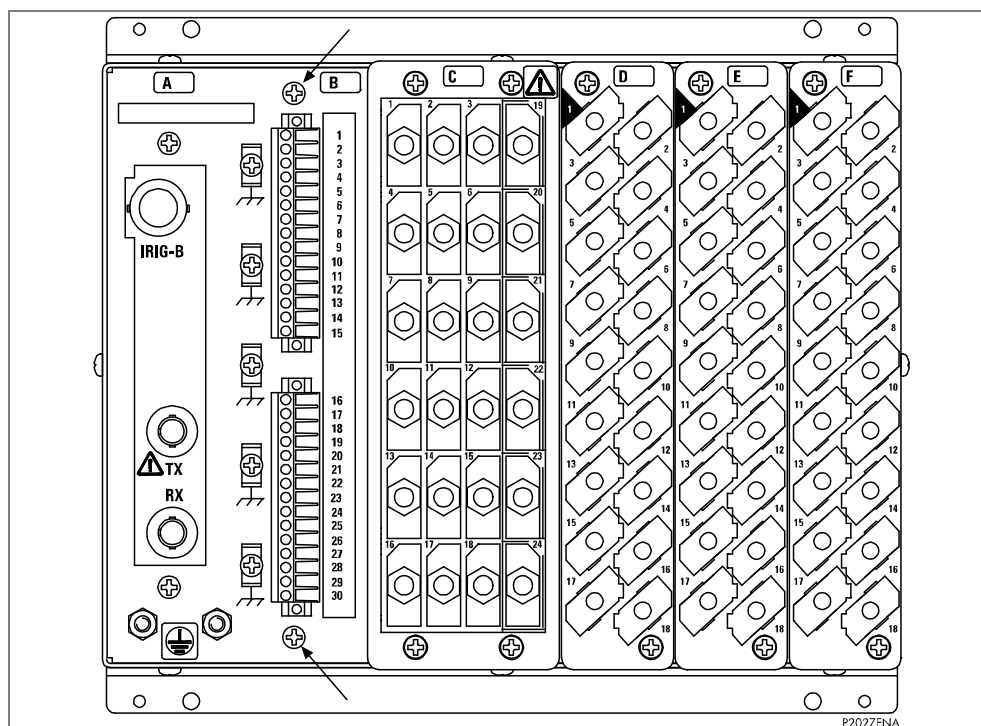

Figure 10 - Location of securing screws for RTD/CLIO input board
1. To replace a faulty RTD input board, first remove the two 15-way terminal blocks, each is fastened to its other half by slotted screws above and below the row of terminals, as shown in Figure 10. Remove these screws carefully as they are not captive in the terminal blocks.
3. The RTD input board is secured in the case by two screws accessible from the rear of the relay, one at the top and another at the bottom, as shown in Figure 10. Remove these screws carefully as they are not captive in the rear panel of the relay.